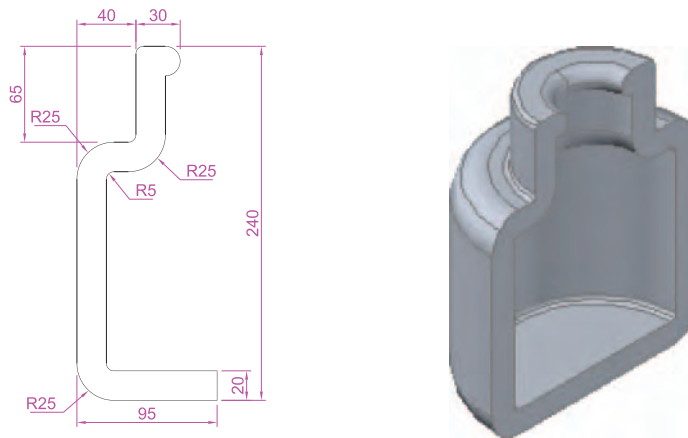

Fig. 12.24 Third example – **Revolve**. The outline to be revolved and the solid of the revolution
Third example – **Revolve** (Fig. 12.24)
1. Construct the pline (left-hand drawing of Fig. 12.24). The drawing must be either a closed pline or a region.
The result is shown in the right-hand side of Fig. 12.24.